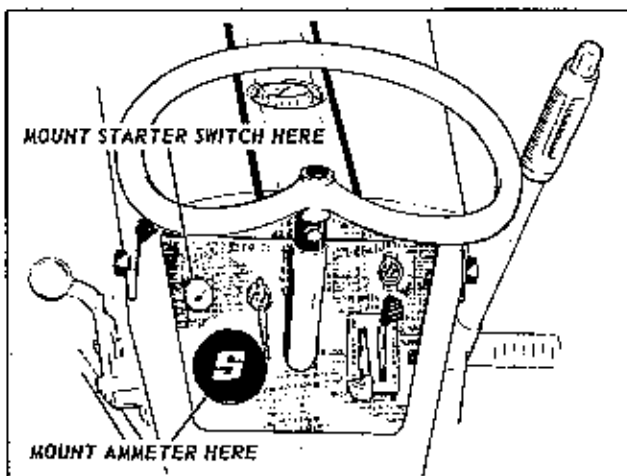

Figure 7
7. Remove the large and small button plugs from the left side of the dash panel. Remove from rear of panel to prevent injury to panel finish. Refer to Fig. 7.